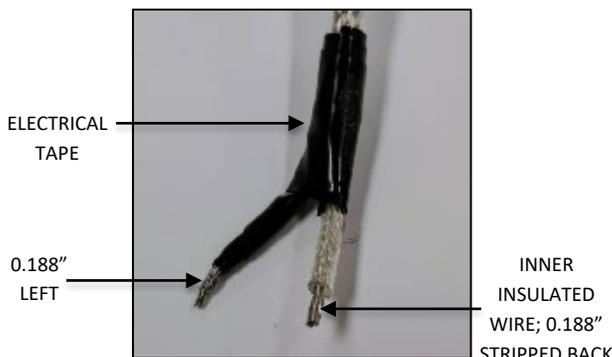
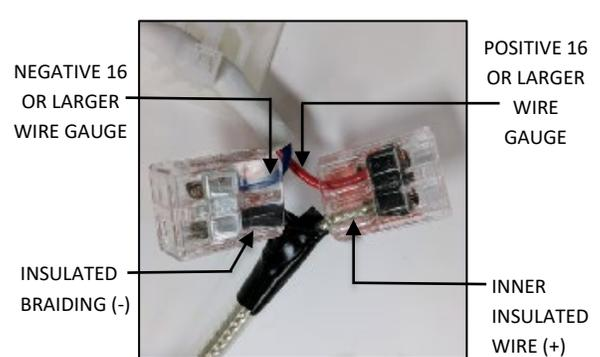

FIG. 42
FIG. 43
- Using electrical tape, insulate the twisted strands leaving 0.188" exposed for connections. Strip off 0.188" of the inner insulation as you normally would for 18AWG stranded core wire as shown in FIG. 42 below. Connect the inner insulated wire (+) to the positive 16 gauge or larger wire ran in step 5 at the hanging bracket and Connect the outer braiding (-) to the negative 16 gauge or larger wire ran in step 5 at the hanging bracket FIG. 43 below.